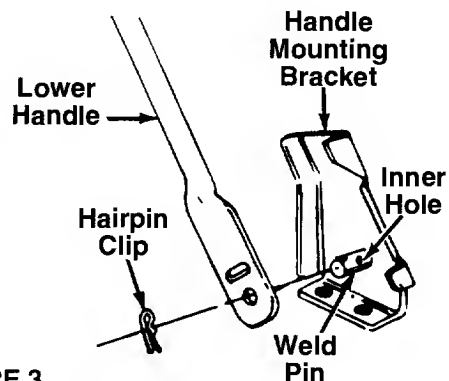

FIGURE 3.
- Using a pair of pliers, remove hairpin clips from the outer hole in weld pins on handle mounting brackets. Place hairpin clips in the inner hole. See figure 3.